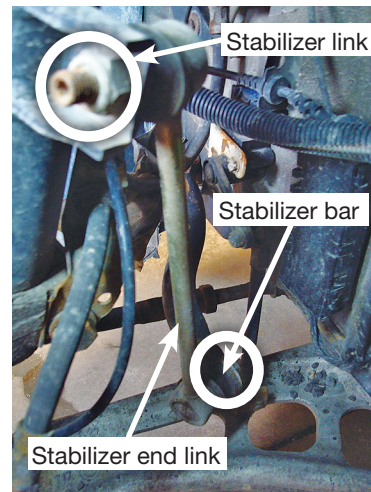

fig. 4
2. Disconnect the stabilizer link from the strut body. Also disconnect the stabilizer end link from the stabilizer bar, removing from the vehicle (Fig. 4).